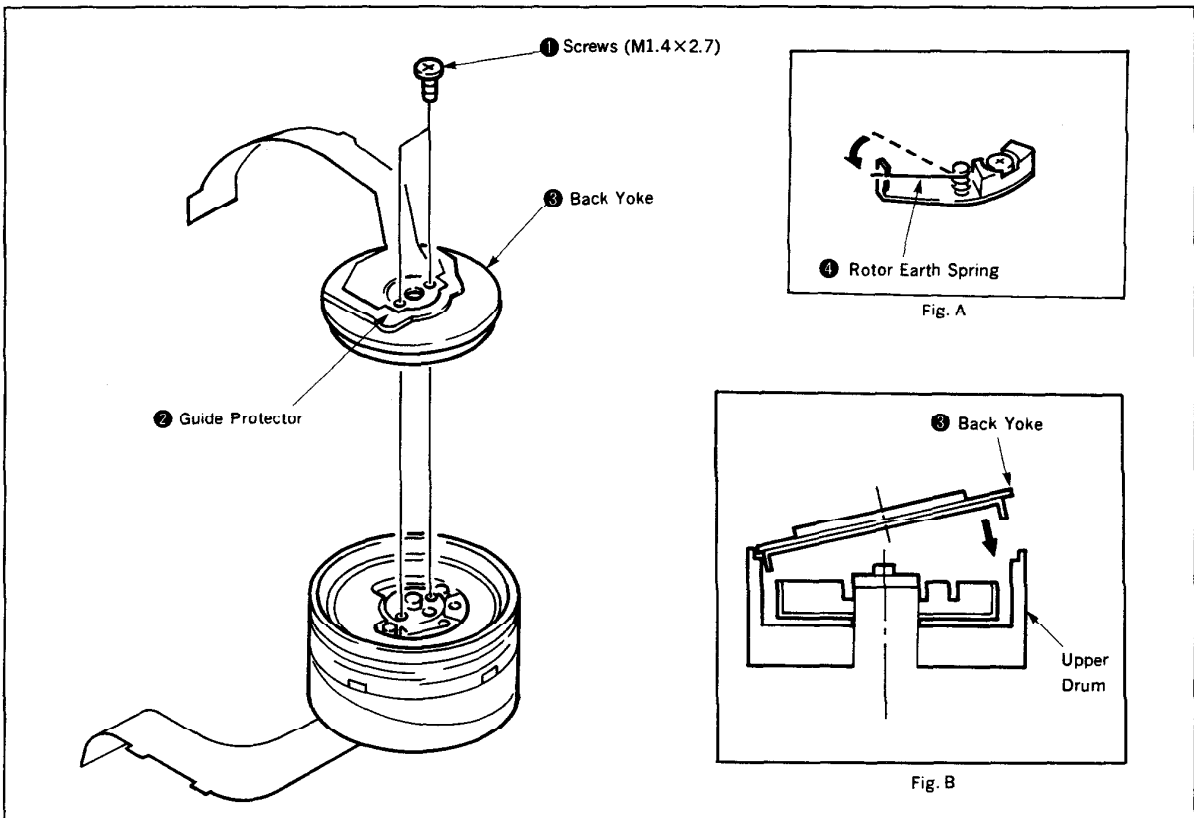

Fig. 44
- Remove the two screws ①. (Fig. 44)
- Hold the outlet (base) of the guide protector ②, lift it up obliquely. In that state, hold the outer figure of the back yoke ③ and remove it. (Fig. 44)
- As shown in Fig. A, set the rotor earth spring ④ around spring hook. (Fig. 44)
- Hold the outer figure of the back yoke ③, put it on the inner step of the upper drum and insert the other side slowly. (Fig. B in Fig. 44)
- Tighten the two screws ①. (500g·cm) (Fig. 44)